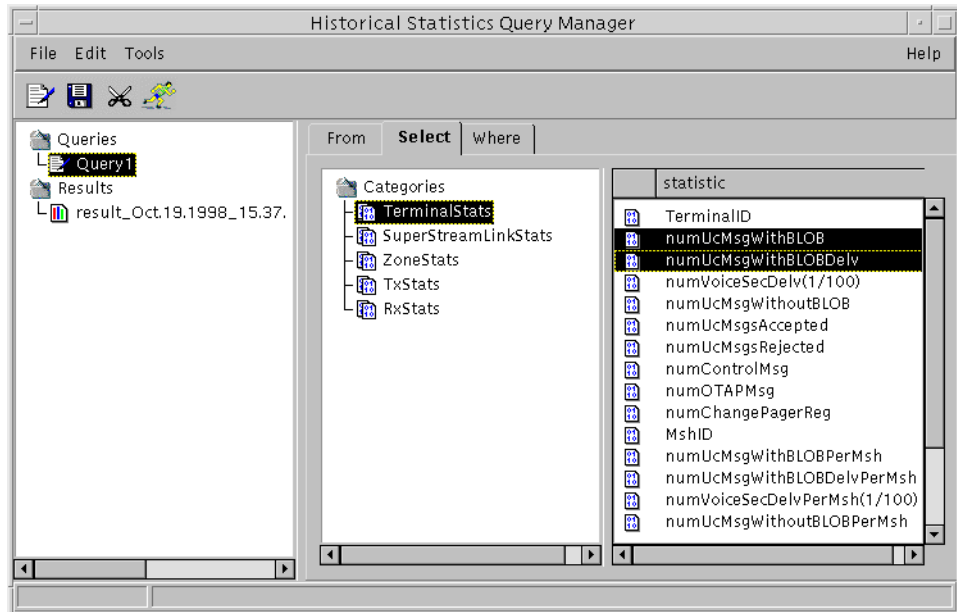

Figure 7-12: Specifying the Select Clause
1. When you press the **Select** tab, the Select panel appears (see Figure 7-12). This panel displays a list of the statistics categories and statistics parameters available for your network element.